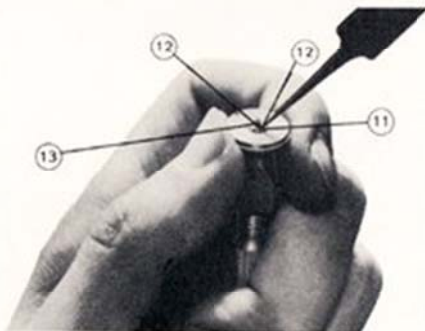

Fig. 2
- Hold the *Barrel Arbor* with *Pin Vise* (See Fig. 2) and wind the spring slightly ($\frac{1}{8}$ th of a turn) to loosen *Disc 11* (Fig. 2).
- Unscrew the two screws (Fig. 2) completely.
- Hold *Barrel Arbor* in *Pin Vise* as shown in Fig. 2.
- Place *Disc 11* (Fig. 2) back into position by screwing up as far as it will go (turn towards left). Line up the two screw holes in the *Disc* with those in the cover.
- Replace two screws 12 (Fig. 2).